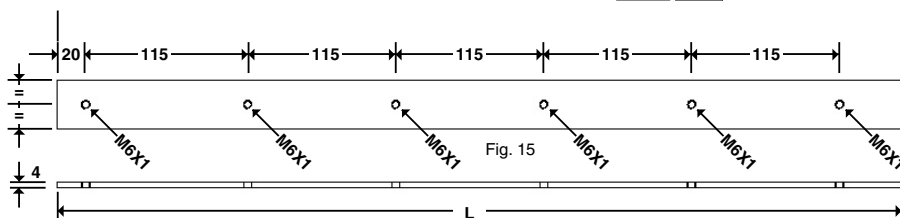

Fig. 15
- Prepare a steel plate of minimum thickness 4mm with length equal to $L = \text{Leaf Width} - (2 \times 50)$, and a width suitable to guarantee a solid and secure fastening between the lower ARIETE section and the upper crosspiece **B**. Drill and thread the plate following the indications along the entire length (Fig. 15).